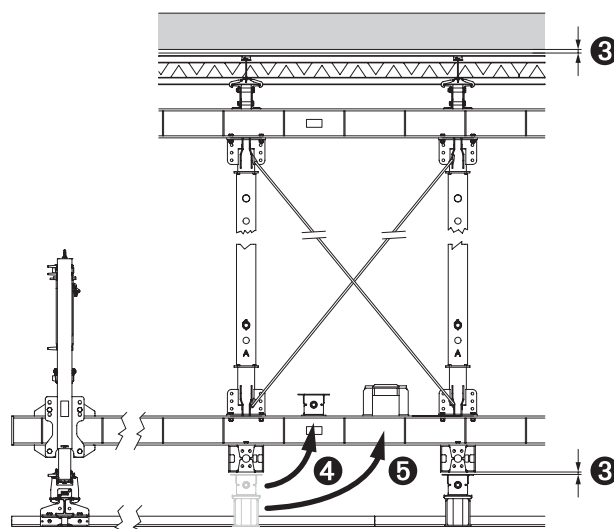

Fig. D2.03
7. Extend the lifting and lowering unit and lift the tunnel formwork carriage until the lowering wedges are free. (Fig. D2.03)